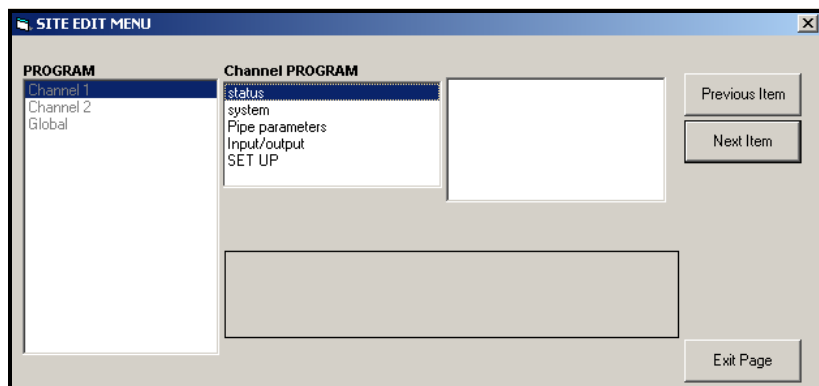

Figure C-10: *Site Edit Menu* Window
3. To enter data into the user program, double-click on the *Site Edit Menu*. The window appears similar to Figure C-10 below.
4. To enter a particular menu (Channel 1, Channel 2, or Global), highlight and double-click on the desired menu in the left pane. For example, clicking on Channel 1 in Figure C-10 above opens the list of options shown in the center pane.
PanaView returns to the Channel PROGRAM menu (see Figure C-10 on page C-9). Proceed to the System option.
- If you are not using MASS FLOW, PanaView returns to the Channel PROGRAM window shown in Figure C-10 on page C-9. Proceed to the Pipe option.
PanaView returns to the Channel PROGRAM window shown in Figure C-10 on page C-9. Proceed to the Pipe option on the next page.